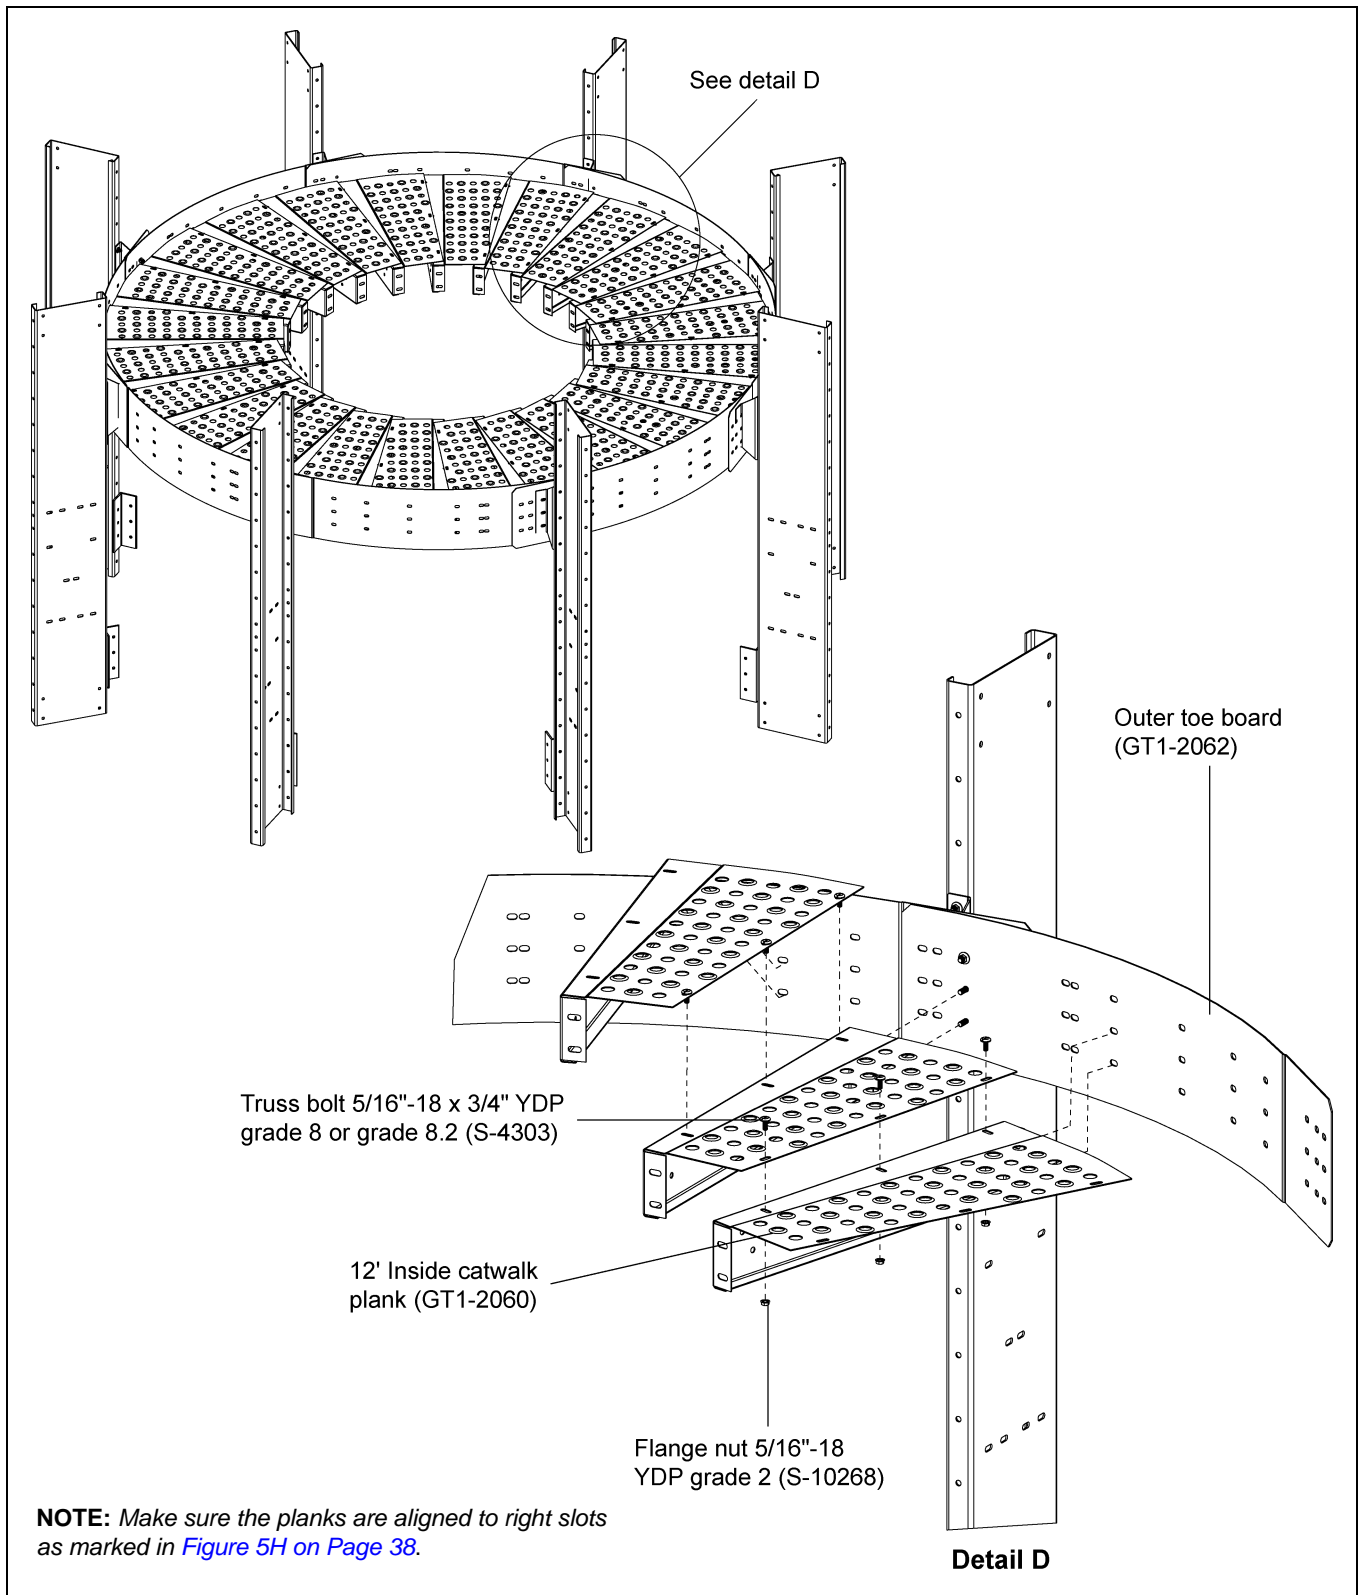

Figure 5F
1. Install the planks (GT1-2060) to the outer toe board (GT1-2062) using 3/8"-16 x 1" JS grade 8 or grade 8.2 bolts (S-7485) and 3/8"-16 ZN grade 5 nuts (S-968). (See Figure 5F.)